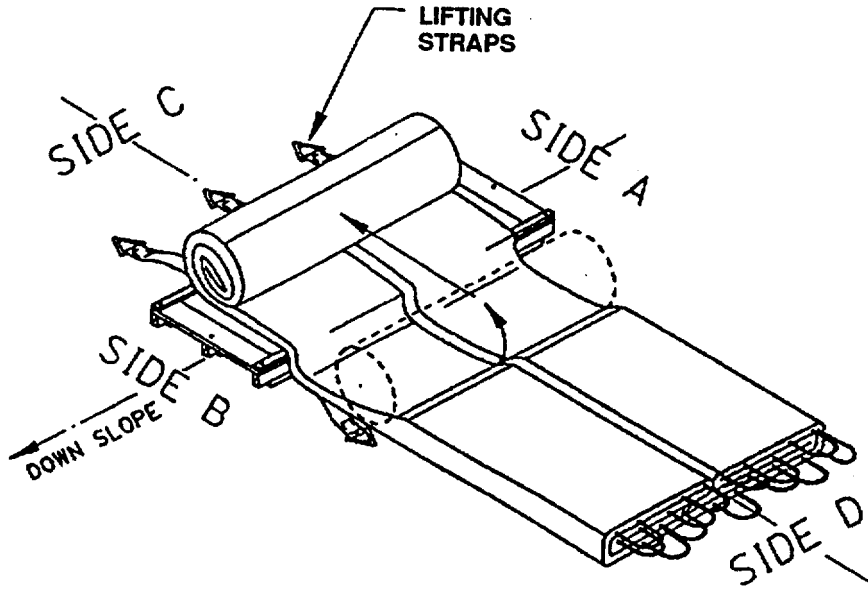

Figure 4-21. Placing end on skid.
- l. Unroll the rolled end of the tank backward onto the skid until the vent opening is clear again (see figure 4-21.) and in the center of the skid.
- (1) Roll the tank from side D, evacuating product and air and maintaining the width of the folded tank.
- (2) Before the final roll, place the vent and dust cap on the vent and wrap with protective barrier material.